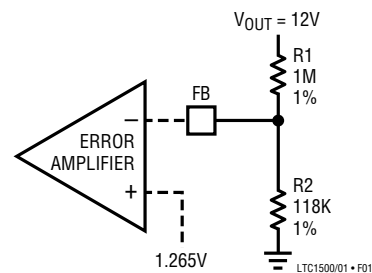

Figure 1. External Voltage Divider
Preset 3.3V and 5V parts are available. For other voltage applications the adjustable part uses an external resistor divider to set output voltage. Bias current for the feedback (FB) pin is typically  $\pm 30\text{nA}$  (it is internally compensated). Thevenin divider resistance should be  $100\text{k}\Omega$  or less to keep bias current errors to a minimum. This leads to a value for R1 and R2 (see Figure 1) of: